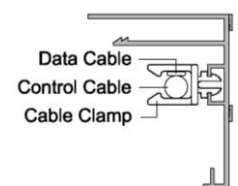

Figure 11
- Place a few cable clamps onto the components fitting slot of the headrail at suitable locations to clamp both control and data cables securely. Refer to Figure 11.